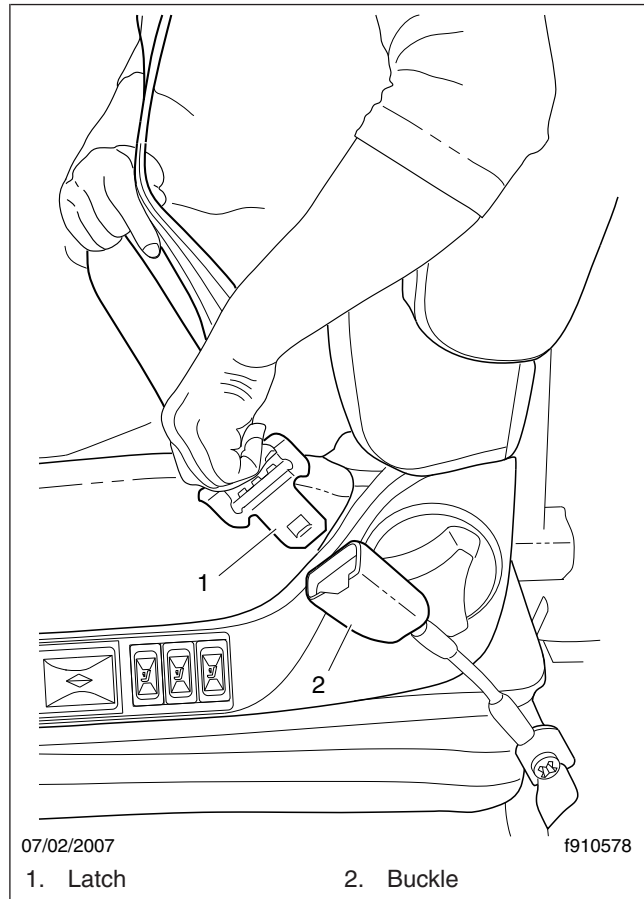

Fig. 6.10, Three-Point Seat Belt Operation
1. Slowly pull the latch end of the three-point seat belt out of the retractor and pull it across your lap (from outboard to inboard) far enough to engage the buckle. If the retractor locks too soon, allow the belt to retract slightly, then slowly pull it out again. See Fig. 6.10.
- Slowly pull the link end of the three-point seat belt out of the retractor and pull it across your lap (from outboard to inboard) far enough to engage the buckle. If the retractor locks too soon, allow the belt to retract slightly, then slowly pull it out again. See **Fig. 6.10**.